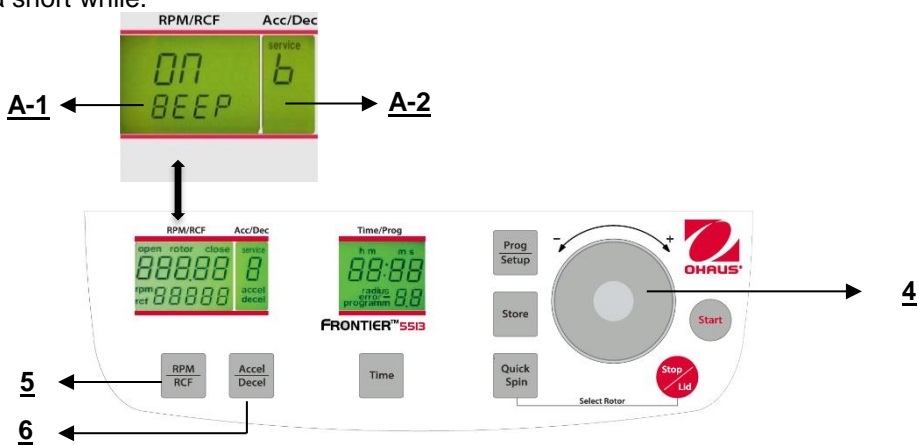

Figure. 33
Proceed as described under point 4.1.2 to enter this program mode and then press the key "**Accel/Decel**" (6). In the display "**Acc/Dec**" (A-2) the word "**Service**" flashes. Now select the letter "**B**". with the adjusting dial (4). As a result, in the display "**RPM/RCF**" (A-1) the word "**ON/BEEP**" appears. After pressing the key "**RPM/RCF**" (5), you can turn the keyboard sound (On) or (Off) with the adjusting dial (4). (See figure 33). After you have stored the settings (See 4.1.2) you can change back to the normal program mode again by switch off the centrifuge for a short while.